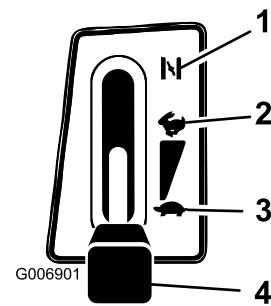

Figure 9
4. Shift the throttle lever to Choke (Figure 9).
6. After the engine starts, slowly shift the throttle lever to Fast (Figure 9). If the engine stalls or hesitates, shift the throttle lever back to Choke for a few seconds and then shift the throttle lever to Fast. Repeat this step as required.
1. Shift the throttle lever to Fast (Figure 9).